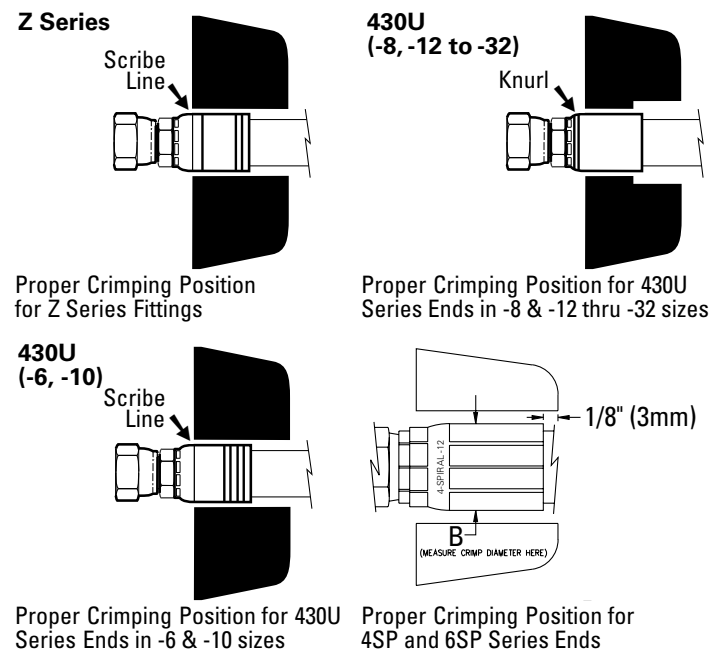

Figure 5 – Proper Crimp Positions
3. Position the fitting in the crimp die set according to the corresponding figure shown in Figure 5.